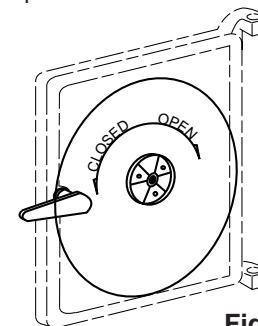

Fig. 9
Only when the coal is burned down to half its original depth it is time to add fresh coal. When doing so, open your stove pipe damper and turn your thermostat damper to high, which will allow the fire to burn off any accumulated gases. Open the feed door, and with a small rake, hoe or hooked poker pull the glowing coals to the front of the firebox. Try not to disturb the fire too much. Next, add a fresh charge to the **back** being careful not to seal off the top. Close the feed door but leave the spin damper (Fig. 9) open for a few minutes until the volatile gases have burned off. It is not necessary to shake down the ashes each time you refuel your Wondercoal. Experience will be your best teacher.
To revive a coal fire that is almost out, you should (1) open the ash door and stove pipe damper and close the spin damper (Fig. 9) on the door to get a good enough draft through the grate. (2) Place a thin layer of dry coals over the entire top of the fire. **DO NOT POKE OR SHAKE THE FIRE AT THIS TIME!** (3) After the fresh coal has become well ignited shake the grate (just a little) and you will be ready to refuel.